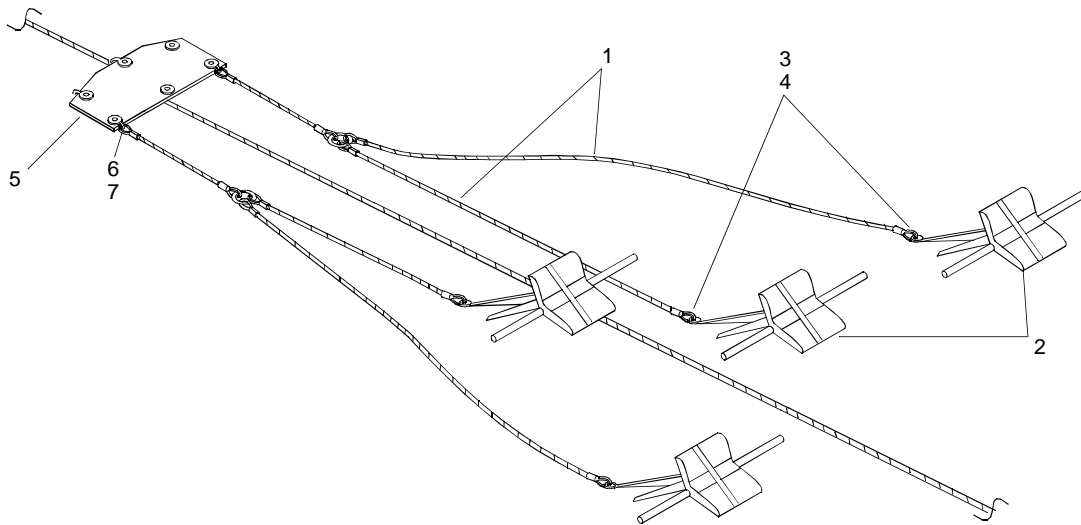

Figure 21. Onshore Mooring Cables and Anchor Bridles
12. Separate anchor bridles (figure 21, item 1) from anchor (figure 21, item 2) shackles by removing 1/2 in. shackle (figure 21, item 3) and pin (figure 21, item 4).
13. Separate anchor bridle (figure 21, item 1) from flounder plate (figure 21, item 5) by removing 7/8 in. shackle (figure 21, item 6) and pin (figure 21, item 7).